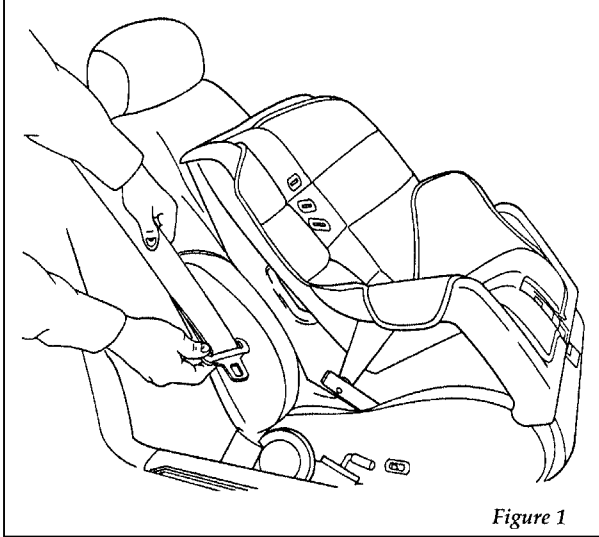

Figure 1
2. Pull down on shoulder belt, then grasp shoulder belt and lap belt together. Figure 1.